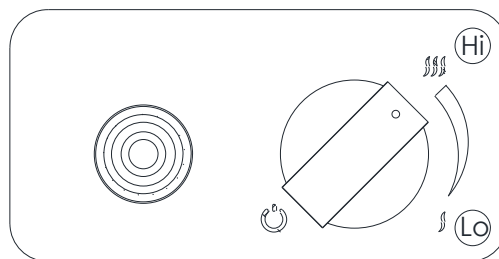

Fig. 12– Flame regulation
- To achieve a higher flame turn the knob clockwise to “Hi” position. To achieve a lower flame turn the knob counter-clockwise to “Lo” position (*Fig. 12*).